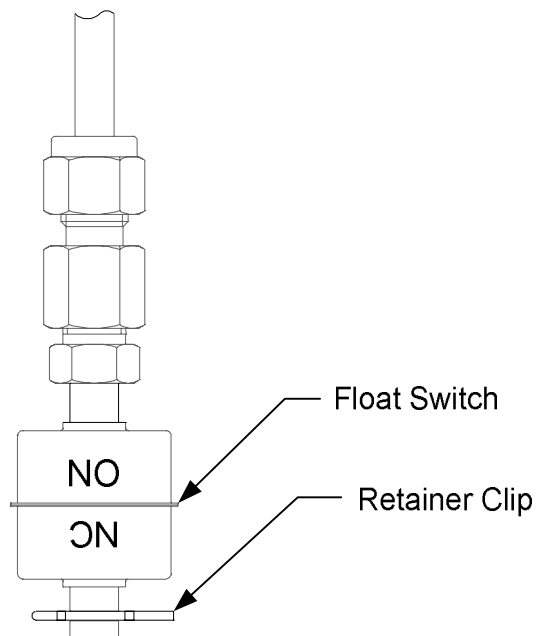

Figure 14: Auxiliary float switch for Normally Open (NO) operation
2. Decide whether the switch needs to function as normally open (NO) or normally closed (NC). This determines the position of the switch float.
3. Read the two-character inscription above the center of the float (Figure 14). The inscription should be in the upright position (it can be read) when the LevelMaster is in the vertical position. It will read either NO or NC (Figure 14 displays NO). If it is not in the desired position: